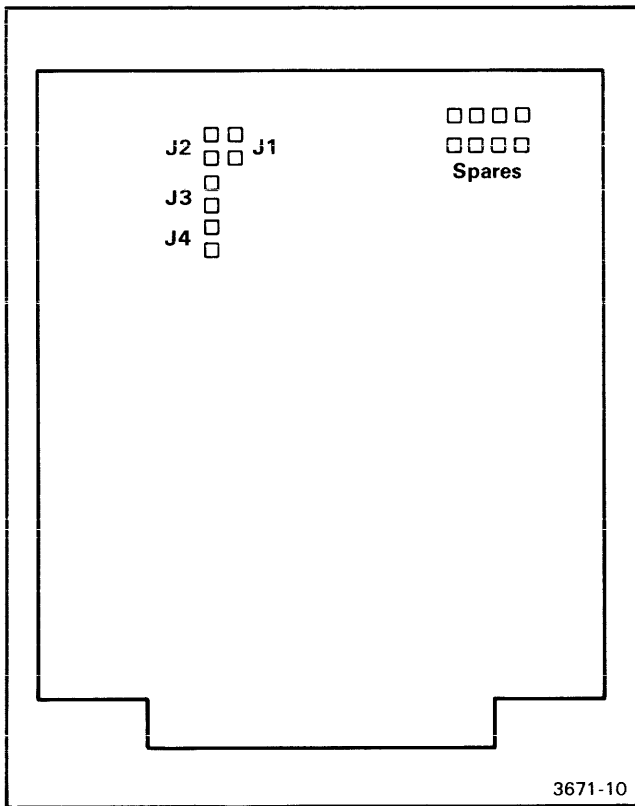

Fig. 4-2. MCS-48 Personality Card jumper locations.
3. Install jumper J4 on the MCS-48 Personality Card (see Fig. 4-2).
4. Verify that jumpers J1, J2, and J3 are not installed (see Fig. 4-2).